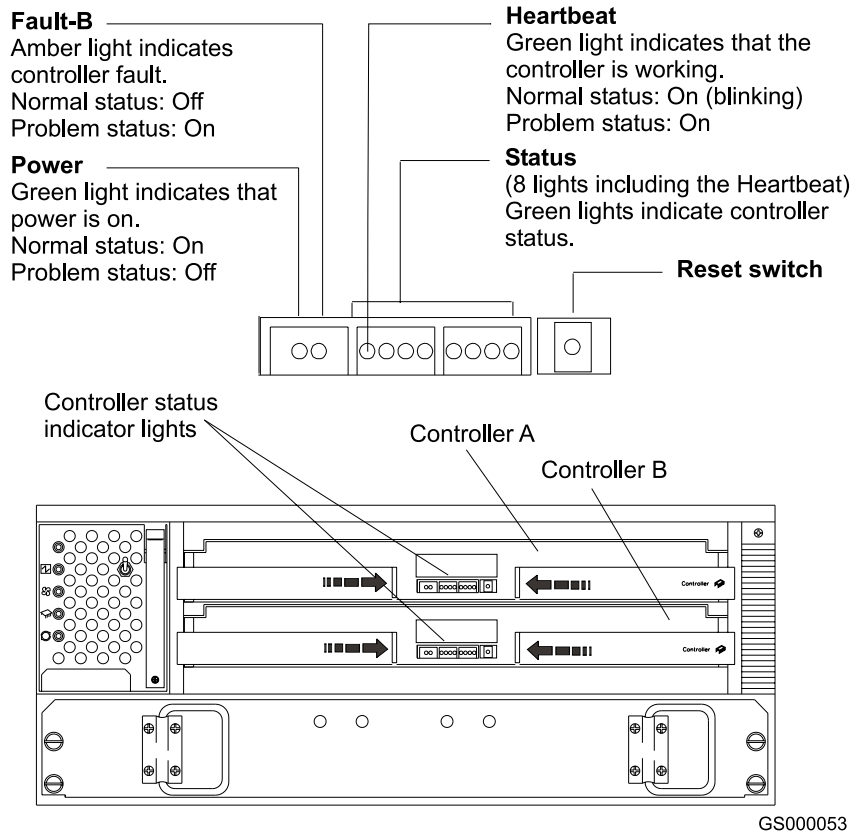
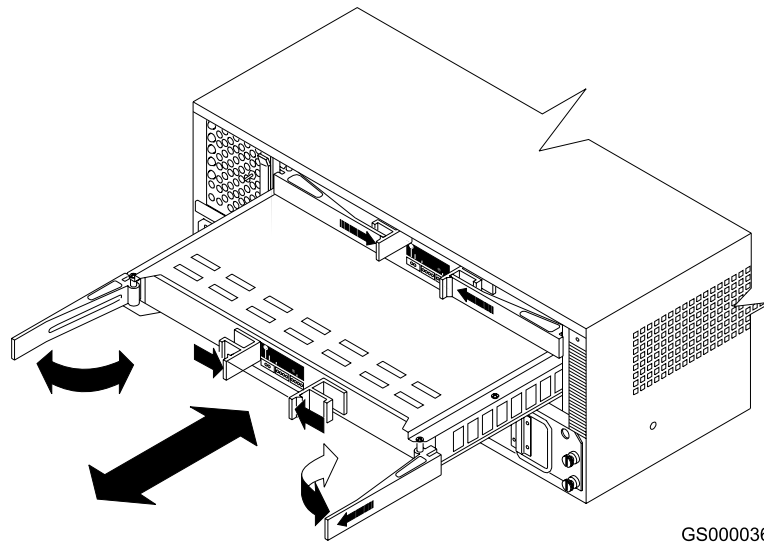

Figure 33. Controller status indicator lights
Figure 34. Removing and replacing a failed controller CRU
Each controller comes in a removable, portable unit, called a controller CRU, as shown in Figure 34 on page 39. Each controller CRU slides into one of two controller slots on the front of the FASSt900 Storage Server and attaches to hosts through Fibre Channel connections. Two handles lock the controller in place. Each controller slot has a controller slot designation that identifies the physical location of the controller in the chassis: controller slot A (top) or controller slot B (bottom). Each controller CRU has ten indicator lights: one power, one fault, and eight status indicator lights, as shown in Figure 33 on page 38.
2. Using Figure 34 as a guide, remove the controller that has failed.
4. Using Figure 34 as a guide, install the new controller as follows: